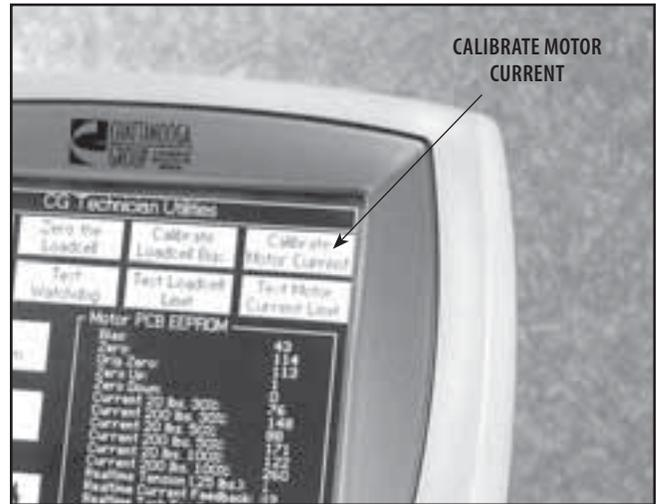

FIGURE 7.9
- 16. Press Calibrate Motor Current on the Touch Screen. See Figure 7.9.